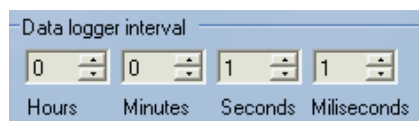

Figure C-3 Data logger interval settings
- ✓ To set the interval of data logging, set up the time interval in the data logger interval section (figure C-3) by **Hours**, **Minutes**, **Seconds**, or **Milliseconds**.